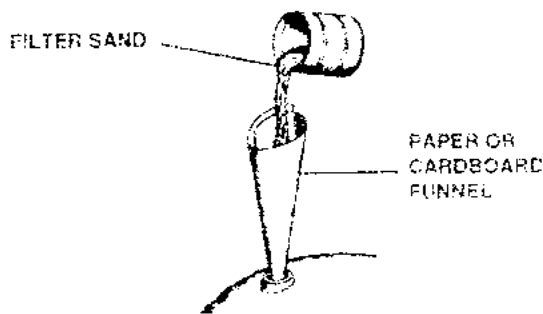

FIG. 4
Install all bolts (20), washers (21) and nuts (30). Tighten bolts and nuts in a uniform manner opposite each other while working around the tank. Remove top tank plug (17) and O-Ring (18) and set aside. Construct a funnel from heavy paper or lightweight cardboard (See Fig. 4). Place funnel in opening and pour the remaining sand directly into tank. It will be easier to use a small can instead of pouring directly from bag. When all the sand is in the tank, clean sand off plug and O-Ring seat area. Replace tank plug and O-Ring.